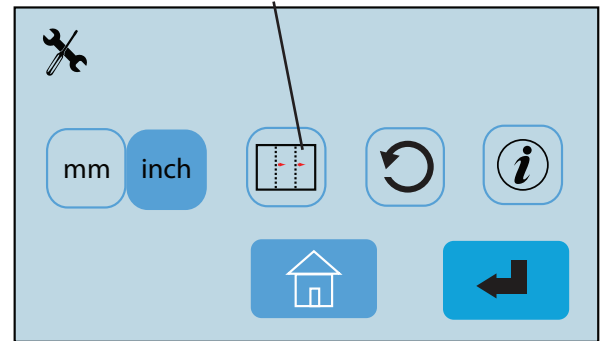

Fig. 25
1. It may be necessary to adjust the factory set standard fold settings for a particular fold type and paper size. This can be done in the Standard Fold Override Mode. From the Operator Settings menu select the Standard Fold Override icon  (Fig. 25) and press the enter  icon to select.